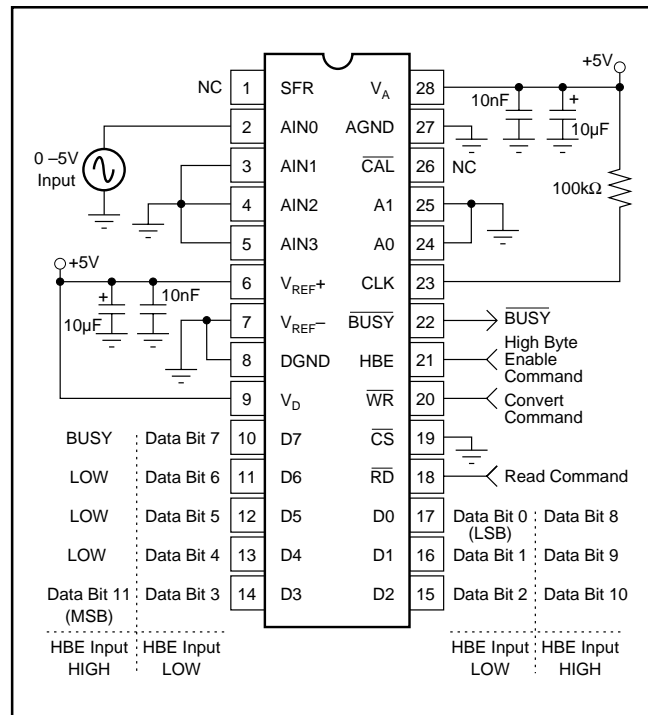

FIGURE 1. Basic Operation.
Figure 1 shows the simple circuit required to operate ADS7832 in the Transparent Mode, converting a single input channel. A convert command on pin 20 ( $\overline{WR}$ ) starts a conversion. Pin 22 (BUSY) will output a LOW during the conversion process (including sample acquisition and conversion), and rises only after the conversion is completed. The two bytes of output data can then be read using pin 18 (RD) and pin 21 (HBE).